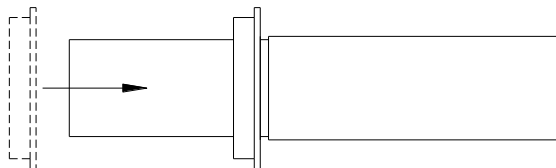

Figure 12
2. Lay out the three axle pieces as shown below in figure 12 and make sure the clip groove is lined up all the way down the axle.